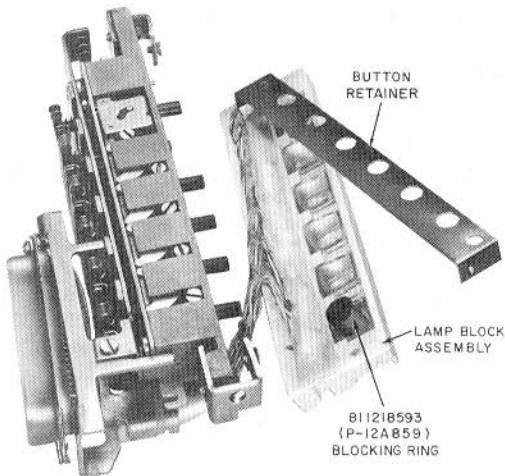

Fig. 11—Blocking Ring Installed In 590 or 650 Series Keys
- (1) Remove lamp block assembly from key (Fig. 11).
- (2) Remove button retainer.